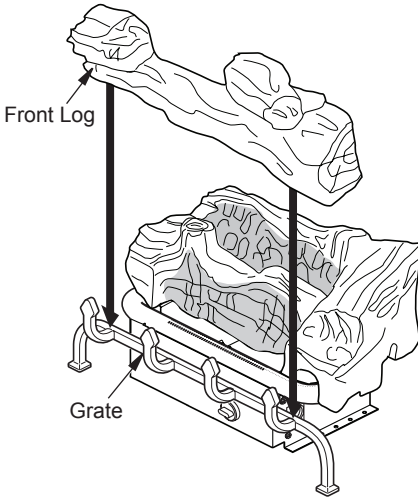

Figure 23 - Installing Front Log (#2)
2. Place front log onto grate. Log is notched to sit over grate (see Figure 23).